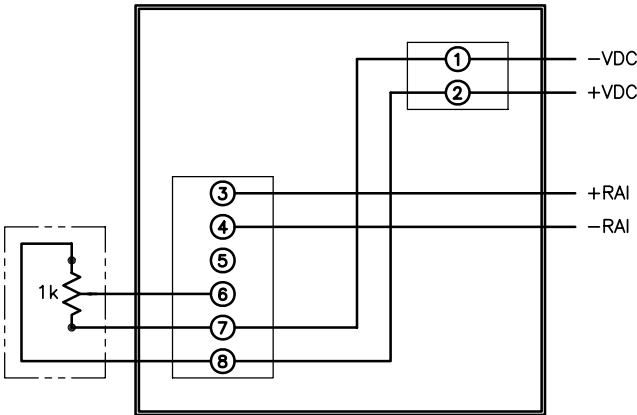

FIGURE 2
2. FIGURE 2 ILLUSTRATES A METHOD FOR DIMMER CONNECTION THAT ADDS AN OPTIONAL 1kOhm POTENTIOMETER AS A VOLTAGE DIVIDER. THIS METHOD HAS THE ADVANTAGE THAT THE ILLUMINATION CAN BE SET TO TOTAL DARKNESS. THE DISADVANTAGE IS THAT THE CONSUMPTION OF THE POTENTIOMETER IS APPROXIMATELY 24 mA, EVEN IF ILLUMINATION IS SET TO TOTAL DARKNESS.